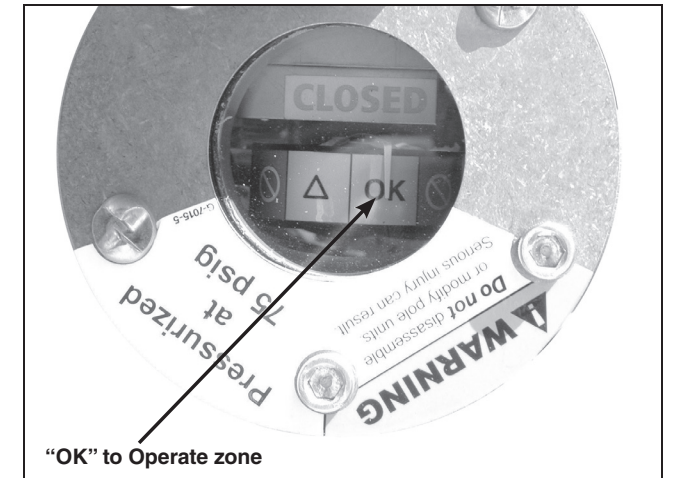

Figure 22. Check that the gas-pressure indicator on each pole-unit is in the “OK” to Operate zone.
- Make sure the gas-pressure indicator is in the white “OK” to Operate zone. See Figure 22. If the gas-pressure indicator is in either the yellow or red zones, gas density in the pole-unit has dropped. Refer to “Understanding the Gas-Pressure Indicator” on page 6.